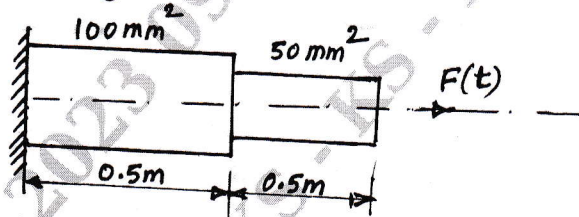

Fig Q10(b)
- b. Determine the eigenvalues and eigenvectors for the stepped bar as shown in Fig Q10(b). Take  $E = 200\text{GPa}$ ,  $\rho = 7830\text{ Kg/m}^3$